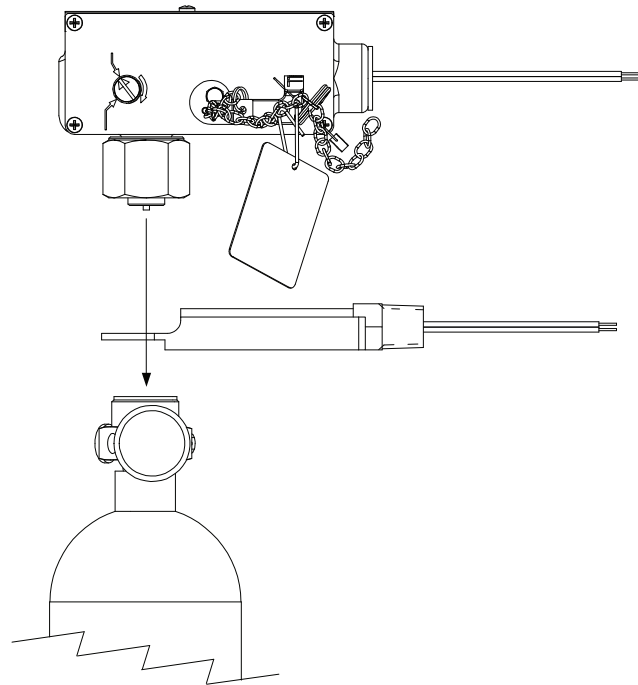
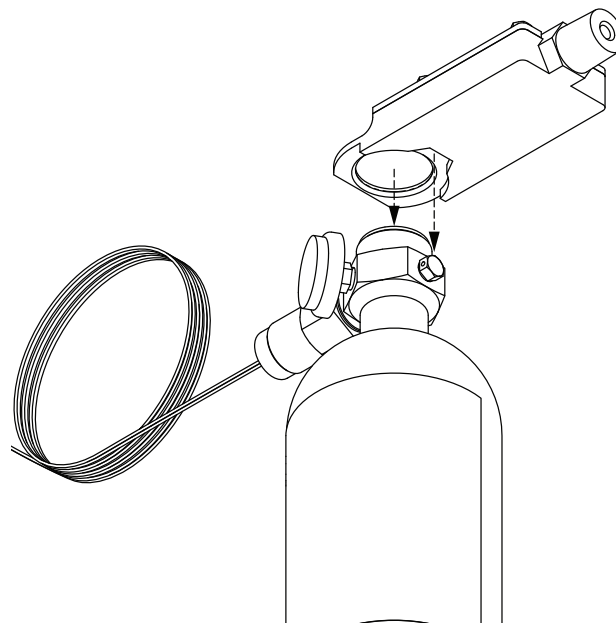

Figure 4-40. Installation Side View
Figure 4-41. Installation Isometric View
6. Insert the CHM between the control head and the cylinder valve actuation port as shown in Figure 4-40 and Figure 4-41. Make sure the safety burst disc outlet port lines up and sits in the slot on the underside of the CHM.